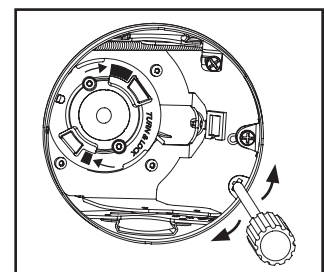

Figure 18.
2. Turn the mechanism to the desired position using the positioning tab and a screwdriver (Figure 18.).